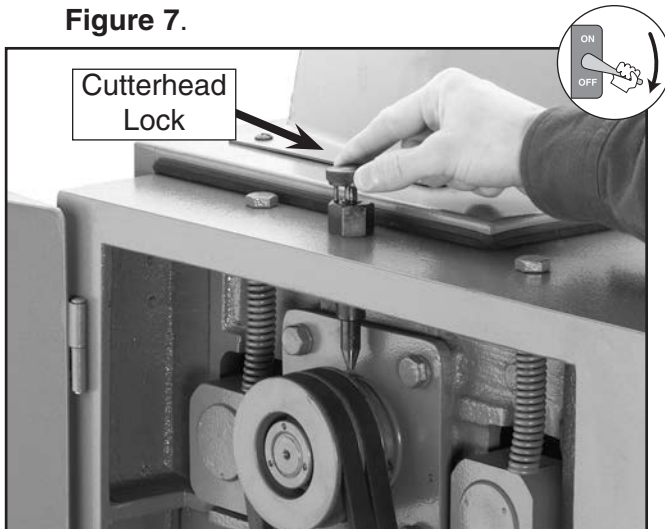

Figure 7. Engaging cutterhead lock.
2. Open the top cover to gain access to the cutterhead. Lock the cutterhead in place with the cutterhead lock as shown in **Figure 7**.